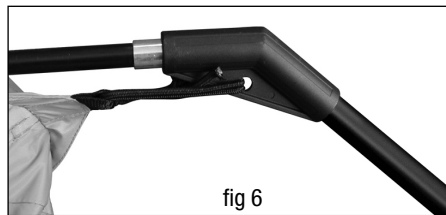

fig 6
4. Raise the tent. Lift the top poles to form a dome. Start on one side and insert the wall poles into the elbows. See fig 6.